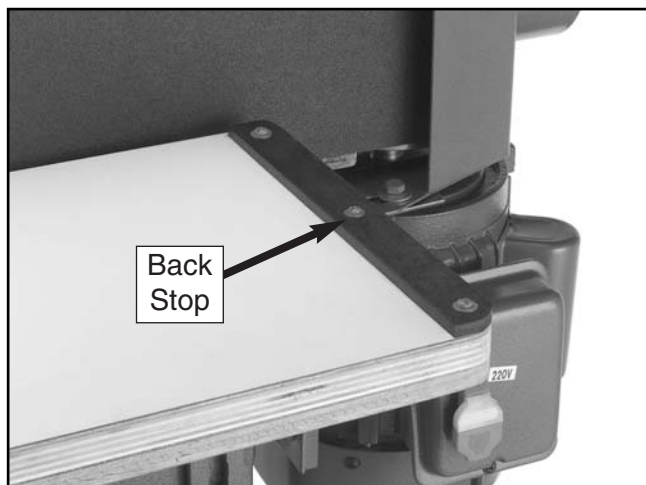

Figure 18. Back stop mounted on table.
2. Secure the backstop to the table with three #8 x 3/4" Phillips head tap screws (as shown in **Figure 18**).